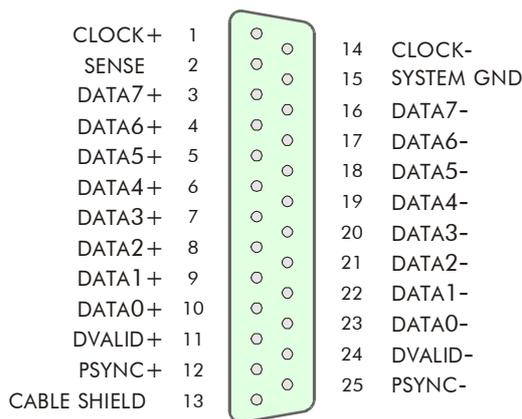

Figure 6. Pin assignment of 25-pin sub-D connector in *Standard DVB/SPI Mode*.
In *Standard DVB/SPI Mode*, the Transport-Stream output of the DTA-102 conforms to the DVB/SPI specification (refer to §1.4 for references), with one small exception explained below the pin out of the 25-pin sub-D connector in Figure 6.
- In Figure 6, pin 1 is drawn in the upper-left corner. However, physically the pin is located at the bottom-right side (PCI bracket held in its normal position).